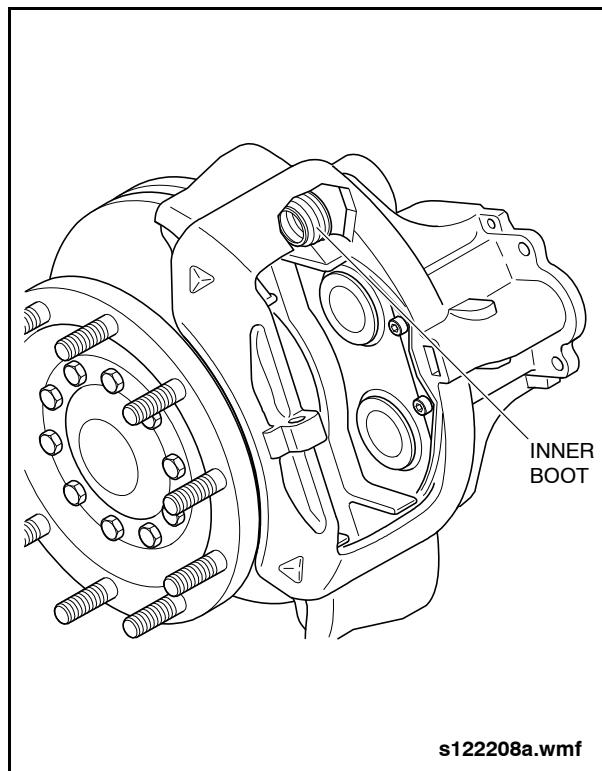

Fig. 1-49: Upper Guide Pin Inner Boot Inspection
2. Push the caliper fully inward to expose the inner rubber boot on the upper guide pin. See "Fig. 1-49: Upper Guide Pin Inner Boot Inspection" on page 58.